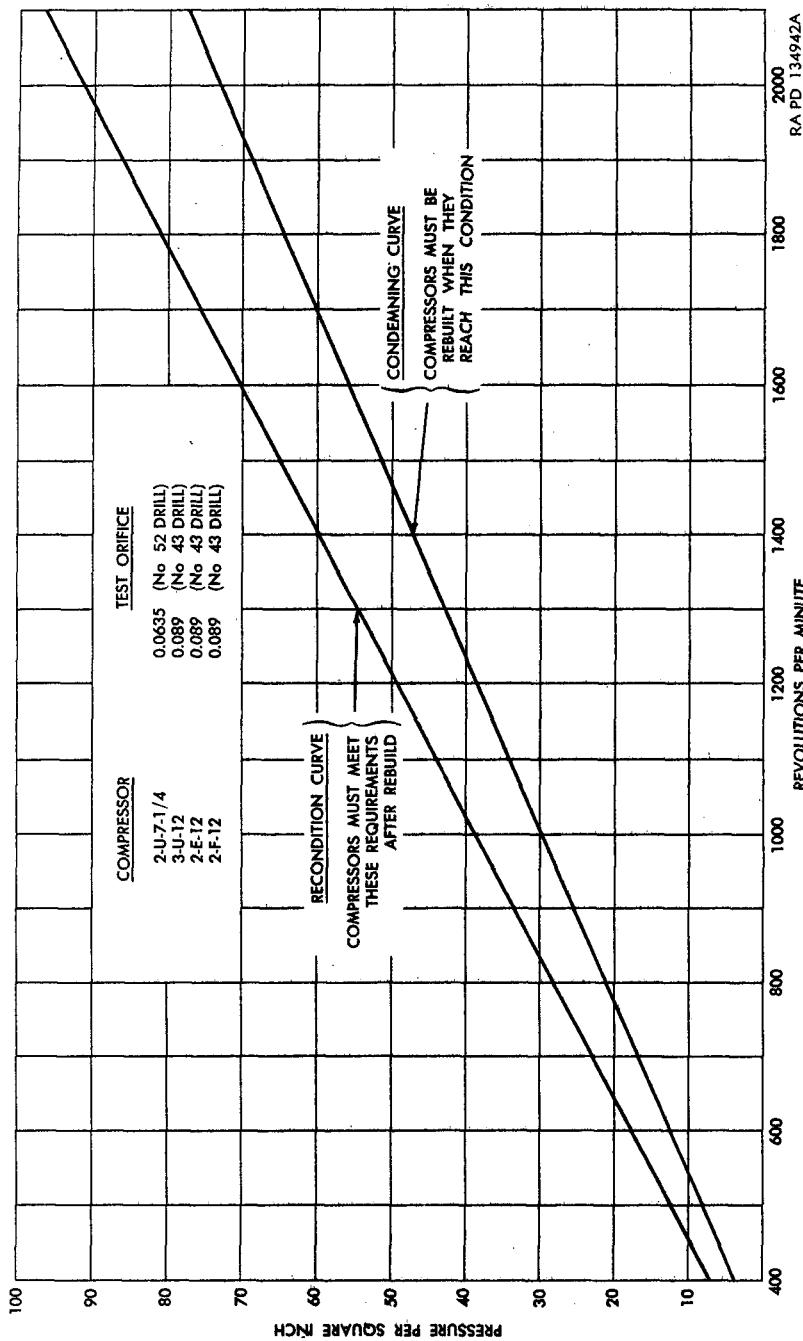

Figure 21. Condemning and recondition curves.
e. If compressor is tested at a speed other than 1,750 rpm, the condemning and recondition curve (fig. 21) will give the minimum allowable pressure required to be maintained by the compressor.
- c. If compressor exceeds the capacity shown by the condemning and recondition curve (fig. 21), meets the requirement of the oil-passing test, and the unloading mechanism functions properly, it is considered serviceable and should be returned to service.